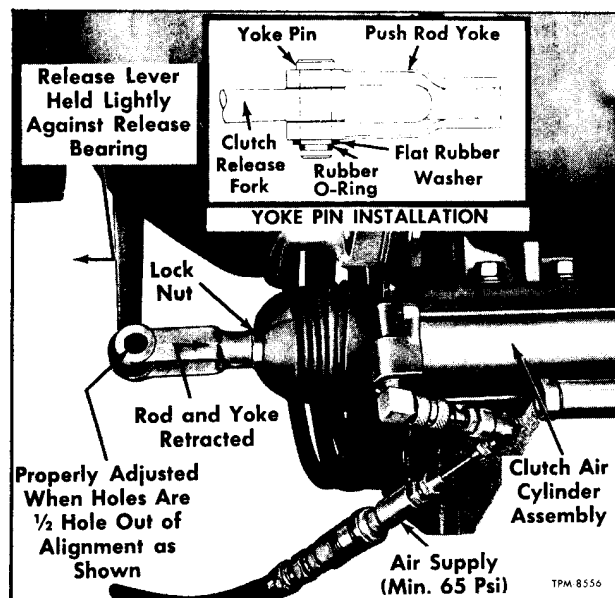
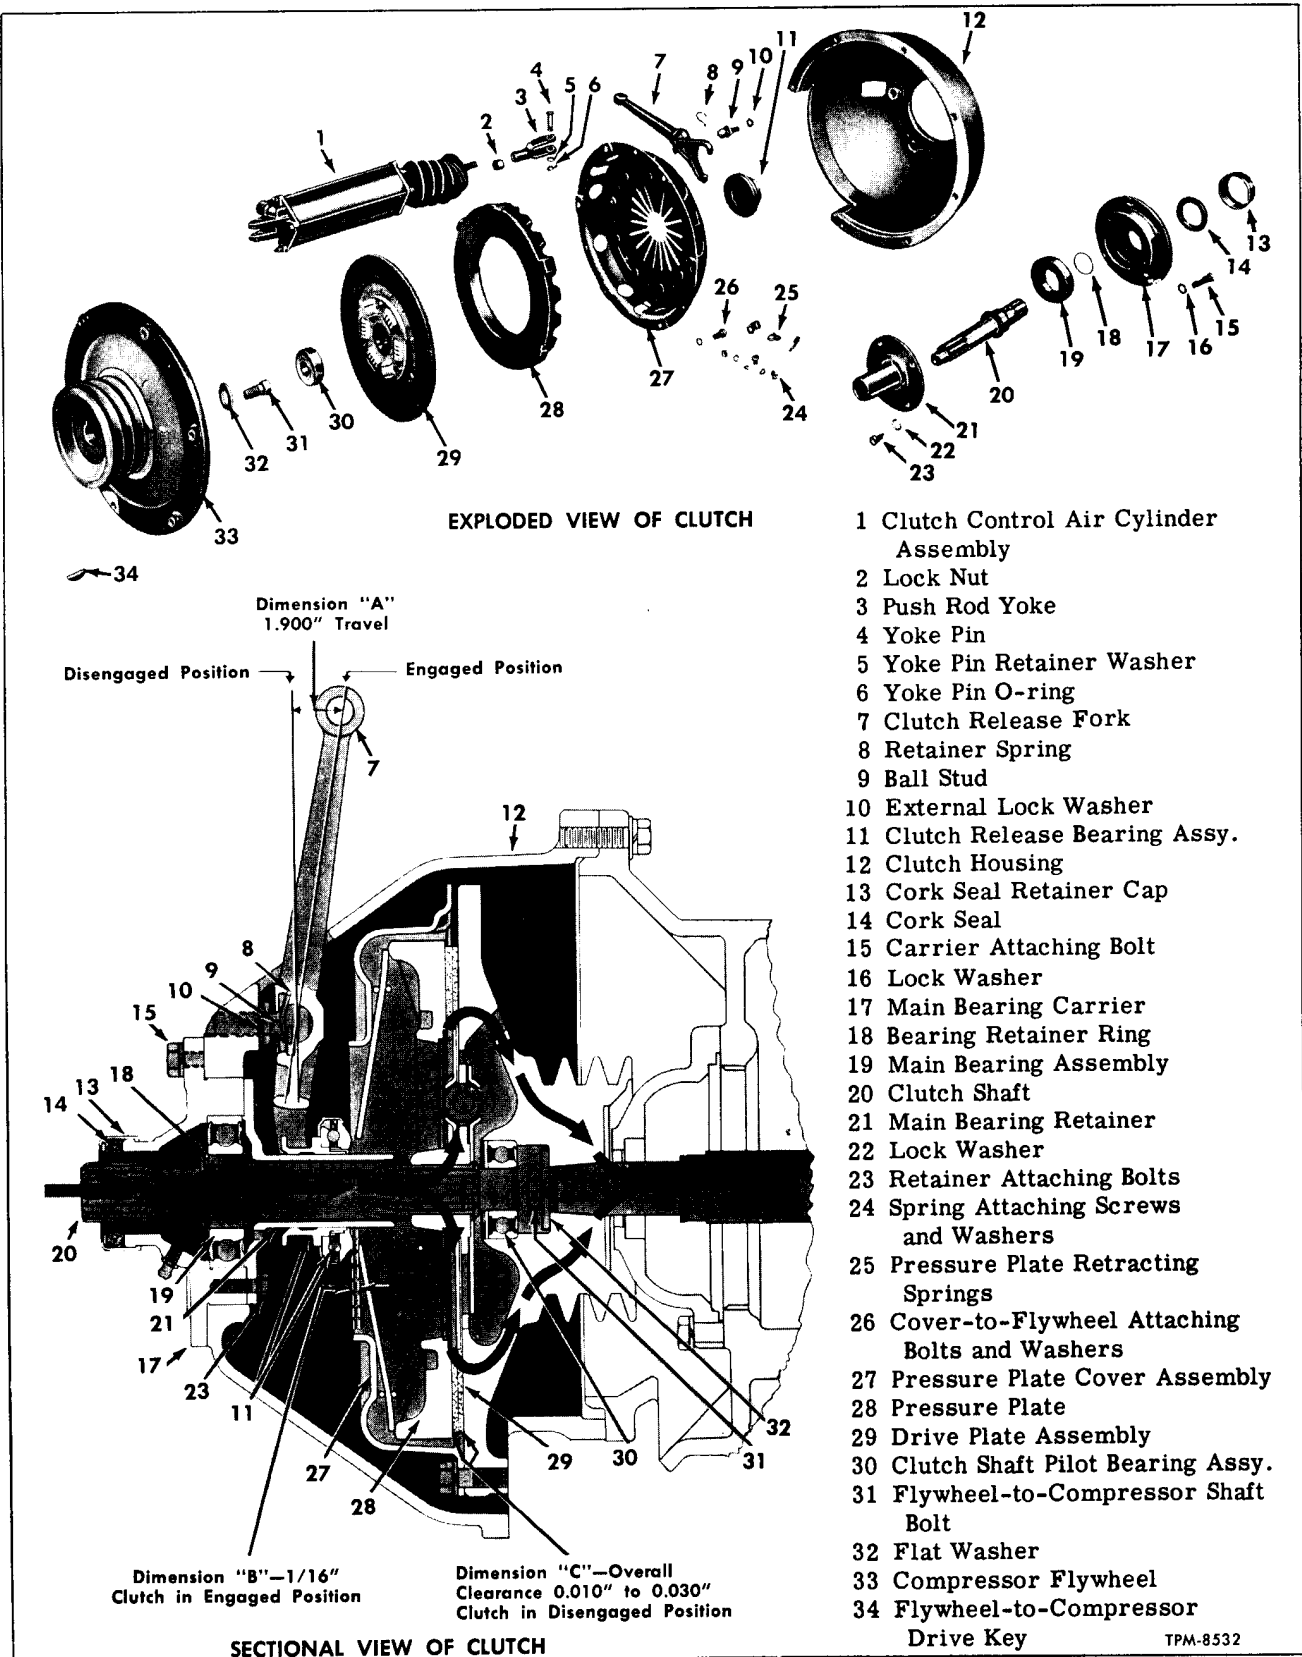

Figure 60—Air Cylinder Push Rod to Release Fork Adjustment
Figure 62—Compressor Clutch Components
With "VENTILATION" switch on control panel at left of driver is placed in "AIR CONDITION" position, and with the engine oil pressure being less than 15 psi and the pressure in coach air system at 65 psi or more, the clutch control solenoid valve becomes energized. With solenoid valve operating coil energized, air pressure is permitted to clutch air cylinder through the flexible line which releases pressure from clutch cover spring causing clutch to become engaged. Lower view of figure 62 shows clutch in the engaged position, air pressure applied. The upper view of figure 62 shows disassembled components of clutch.
At regular intervals the over-all clearance between the clutch driven plate, the pressure plate, and the compressor flywheel (dimension "C" fig. 62) should be checked with clutch disengaged. Clearance should measure 0.010" to 0.030". This is accomplished as follows: With clutch disengaged, air cylinder push rod extended, measure plate clearance through hole in bottom of clutch housing
hole in yoke, the hole in fork being further away from the air cylinder (fig. 60). Swing release fork so that its hole will line up with yoke hole and insert pin. Extend push rod by shutting off air supply to air cylinder. Push rod should move out a minimum of 1.900 inches. Measure plate clearance through hole in bottom of clutch housing. If clearance is not enough, screw yoke further out on push rod and vice versa.
With clutch in the engaged position (air pressure applied), release bearing should clear the Belleville spring by at least 1/16 inch (dimension "B," fig. 62). If there is less than 1/16 inch it means that more stroke is being applied to spring than is necessary to get .010-.030 inch plate clearance. Distance of release bearing from Belleville spring can be checked by removing pin through yoke and release fork and swinging bearing against spring by hand. Then gradually move bearing away from spring, observing distance the outer end of release fork travels. A 3/16 inch movement at outer end is equal to 1/16 inch at the inner end. After correct adjustment is obtained, lock jam nut against yoke and place rubber holding washer and O-ring on end of pin (see inset, fig. 60).
The compressor drive clutch (fig. 62) enclosed by an aluminum housing is mounted to drive end of compressor. Clutch is of the conventional automotive type and is actuated by an air powered cylinder assembly pivot mounted to side of compressor.
The clutch input shaft, which is propeller shaft driven from engine accessory drive is engaged directly to the clutch drive plate assembly. Thus the drive plate is turning whenever the coach engine is running. When clutch is engaged by action of the air cylinder, the Belleville spring of clutch pressure plate is released. This action releases pressure plate to engage both drive plate and compressor flywheel to operate the compressor. Large arrows on figure 62 indicate the power flow from the drive shaft input through the clutch to the compressor.
NOTE: Key numbers in text refer to figure 62.
1. Press main bearing assembly (19) onto clutch shaft (20) making sure unshielded side of bearing is toward flange on shaft.
2. Install bearing retainer ring (18) into ring groove on shaft.
3. Pack cavity of main bearing carrier (17) with S26 lubricant as specified in LUBRICATION (SEC. 13). Referring to figure 62 for position of parts, place carrier on shaft, then position main bearing retainer over bearing. Install retainer to carrier with four bolts (23) and lock washers (22). Tighten bolts firmly.
4. Place carrier (17) with shaft (20) into clutch housing. With compressor drive end mounting in position attach bracket and carrier to housing with four bolts (15) and lock washers (16). Tighten bolts loosely at this time.
5. Pack ball stud socket of clutch release fork (7) with wheel bearing grease, then insert ball stud (9) into socket. Secure stud with retainer spring (8). Make sure ends of spring are located into fork.
6. Slide clutch release bearing (11) over main bearing retainer position as shown in sectional view of figure 62.